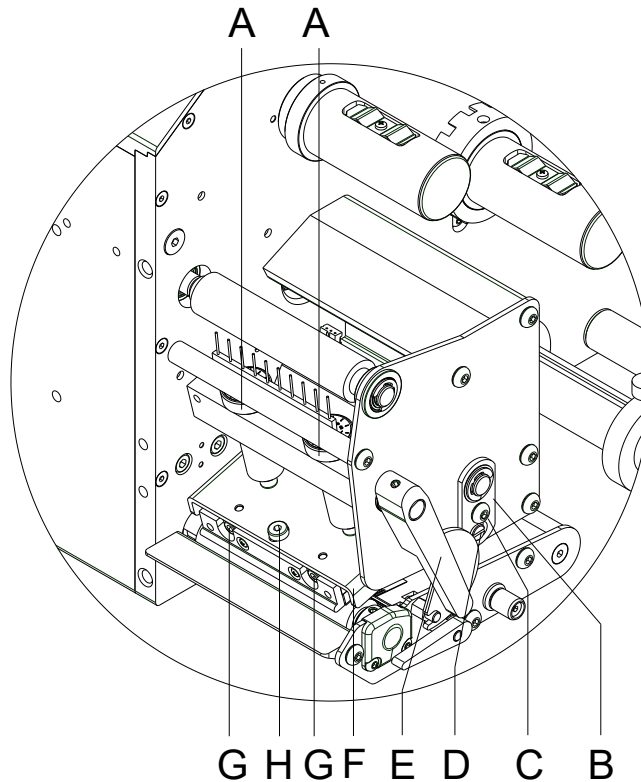

Figure 28
After adjusting parallelism and no even strong pressure exists over the complete print width, by means of a plate (B, Figure 28) you can set the balance.
1. Loosen the screw (C, Figure 28) with a screwdriver by approx. ¼ rotations.
2. To achieve a pressure balance, turn the eccentric bolt (D, Figure 28) as long as the printing result comes up to your full expectation.
3. Tighten again the screw (C, Figure 28).
Change the head contact pressure with the screws (A, Figure 28) at the inside and outside of the printhead. Increasing the pressure of the head contact leads to an improvement of the print image density on the corresponding side and to a shifting of the ribbon feed path in the corresponding direction.
1. Turn the pressure screws (A, Figure 28) to change the pressure of printhead.
2. Turning of pressure screws (A, Figure 28) as far as they will go in clockwise direction results in a pressure increase of 10N in contrast to the factory settings.
3. Turning of pressure screws (A, Figure 28) exactly one rotation from the right stop position counter-clockwise results in the factory settings.